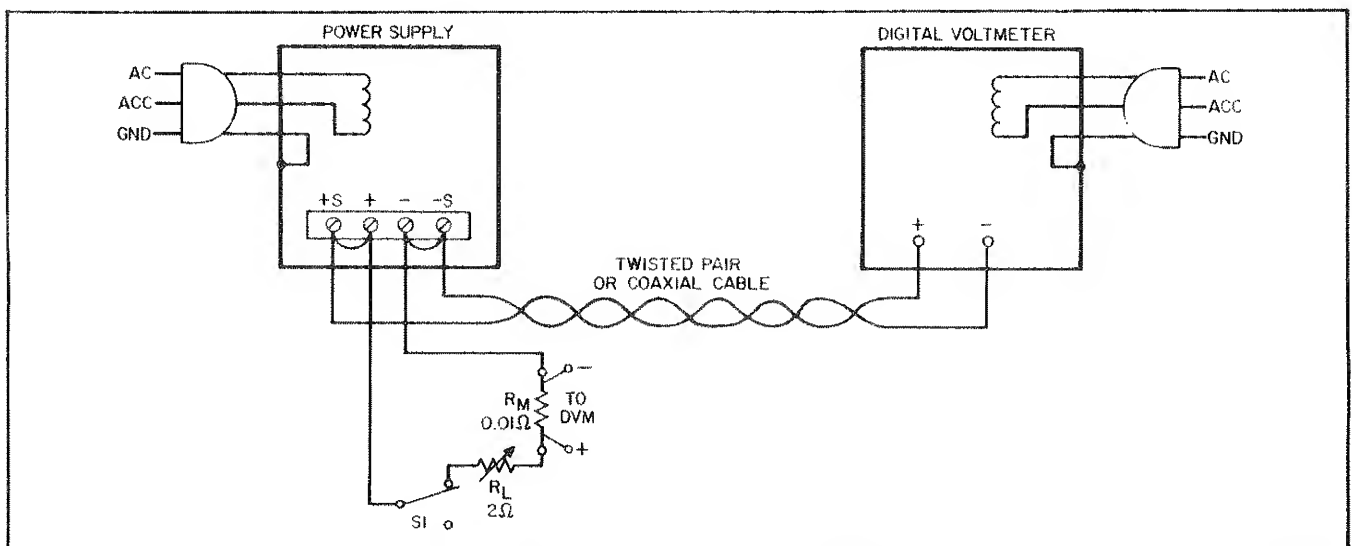

Figure 5-2. Constant-Voltage Test Setup
- Connect test setup shown in Figure 5-2. Set R_L to maximum resistance initially.
- Connect test setup shown in Figure 5-2.
- Connect load resistance and digital voltmeter as illustrated in Figure 5-2.
- Connect load resistance and digital voltmeter (DVM) as illustrated in Figure 5-2.